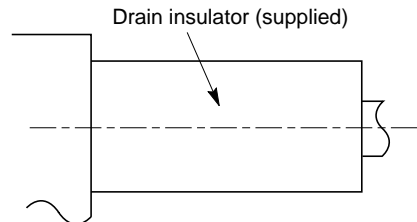

Fig. 3-39
- After checking the drainage, wrap the supplied packing and drain pipe insulator around the pipe. (Fig 3-39)